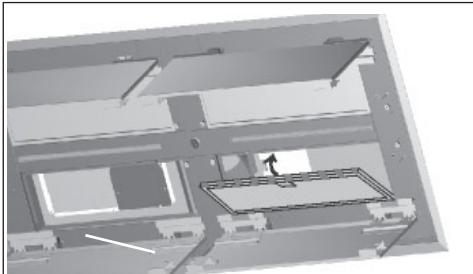

FIG. 26
1. To install the grease filters, align rear filter tabs with slots in the hood. Push latch tab in, push filter into position and release. Make sure filter is securely engaged after installation. Fig. 26.